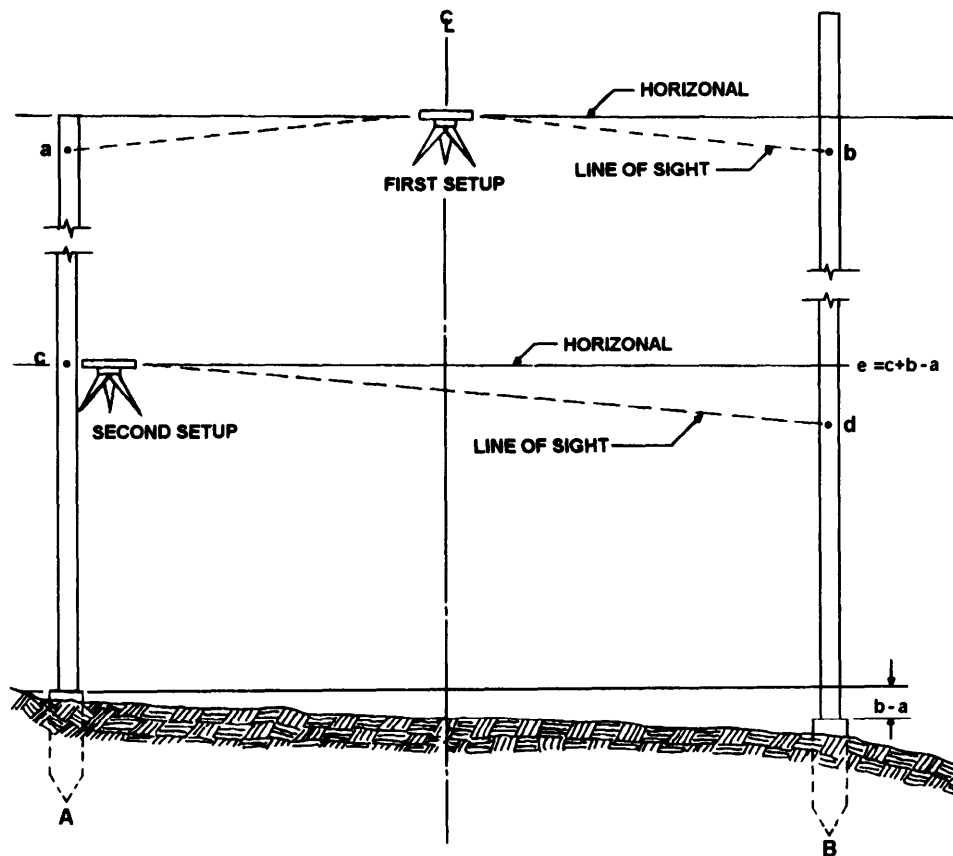

Figure 6-3.—Two-peg test method.
the line of sight is not parallel to the axis of the level tube, then you must adjust the line of sight. The method used for adjustment is known as the *two-peg test* (fig. 6-3). This method requires you to do the following steps:
1. Setup and level the instrument (first setup, fig. 6-3). Drive stake (peg) A about 150 feet away, then drive stake B at the same distance in the opposite direction.
3. Move the instrument close to stake A (second setup, fig. 6-3) so that the eyepiece is within a half inch from the rod. Then, by sighting through the objective-lens end of the telescope, take a rod reading  $c$  on stake A. Next, take a rod reading  $d$  on stake B in the normal manner. If the instrument is in adjustment,  $d-c$  will equal  $b-a$ .
computing the reading that should be made on the far rod (fig. 6-3), you set the horizontal cross hair on the computed reading using the vertical slow motion screw. Then you move one end of the spirit level vertically by means of the adjusting nuts until the bubble is centered in the tube (fig. 6-8).